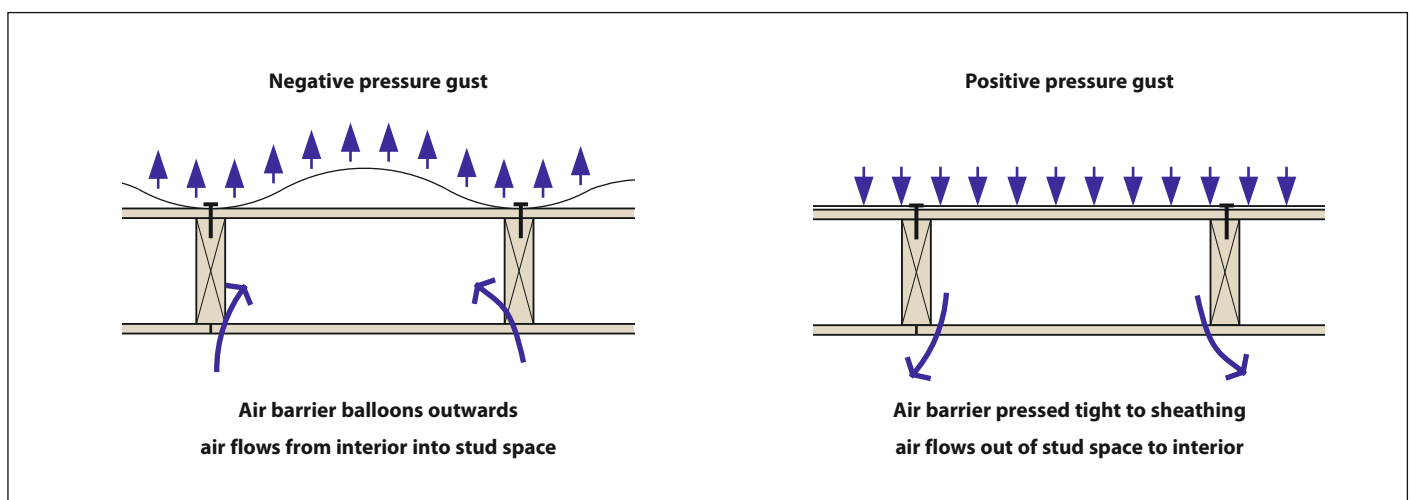

Figure 6: Wind-induced “pumping” of mechanically attached air barrier
- **4. Stiffness** – The stiffness of the ABS (including fastening methods) must reduce or eliminate deflections to control air movement into the enclosure by pumping (the movement of the air barrier that pulls and pushes air into and out of enclosure cavities, see Figure 6). The ABS must also be stiff enough that deformations do not change the air permeance (e.g., by stretching holes around fasteners) and/or distribute loads through unintentional load paths.